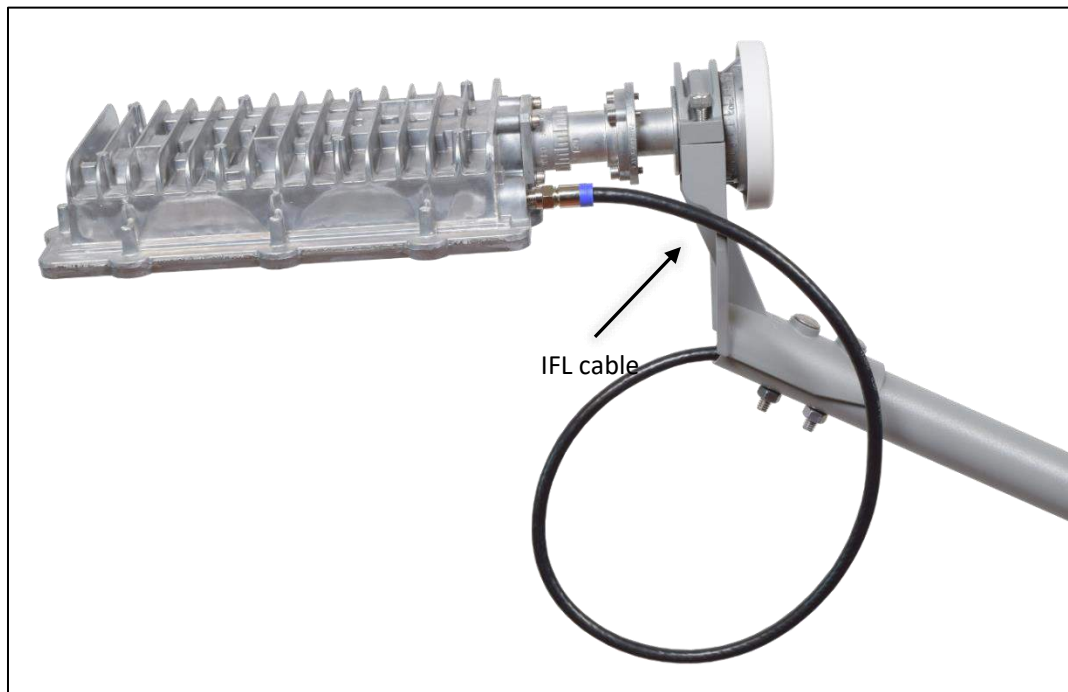

Figure 26: Hughes-approved IFL cable connector (shown with single IFL radio)
3. Connect the IFL cable to the connector on the radio, as shown in Figure 26.